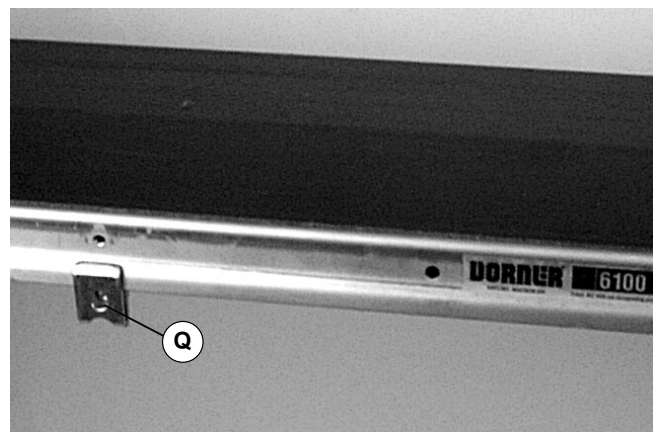

Figure 9
- Attach mounting clip (Q of Figure 9) on each side of conveyor.